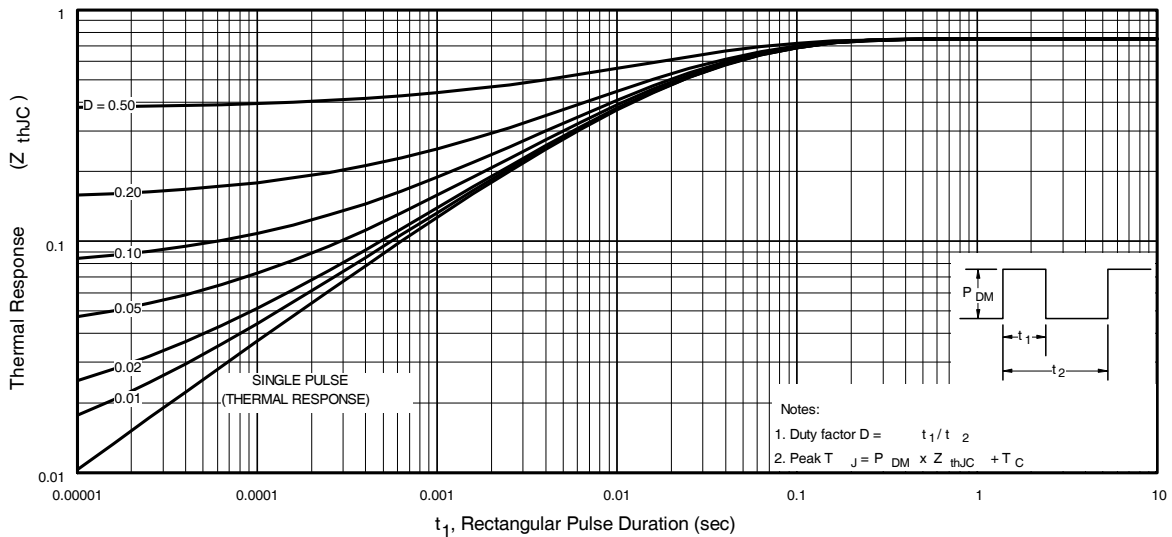

Fig 11. Maximum Effective Transient Thermal Impedance, Junction-to-Case
- ① Repetitive rating; pulse width limited by max. junction temperature. (See fig. 11).
- ② Starting $T_J = 25^\circ\text{C}$, $L = 0.130mH$
$Z_{thJC}(D, t_{av})$ = Transient thermal resistance, see figure 11)